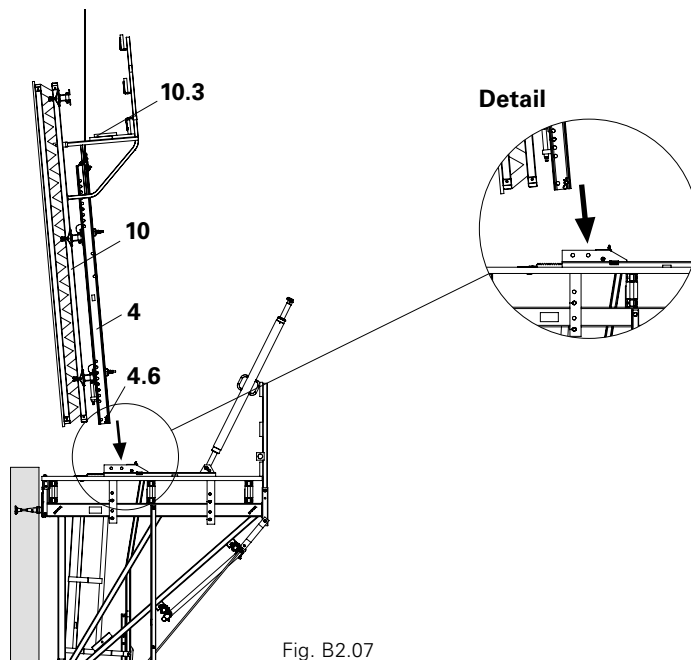

Fig. B2.07
4. Attach complete formwork element to the Strongback (4) and position on the CB 240 platform. (Fig. B2.07)
5. Mount Strongback CB (4) to Carriage using bolts $\varnothing 25 \times 180$ and cotter pins (4.6). Holes in Carriage, see Details. (Fig. B2.07)